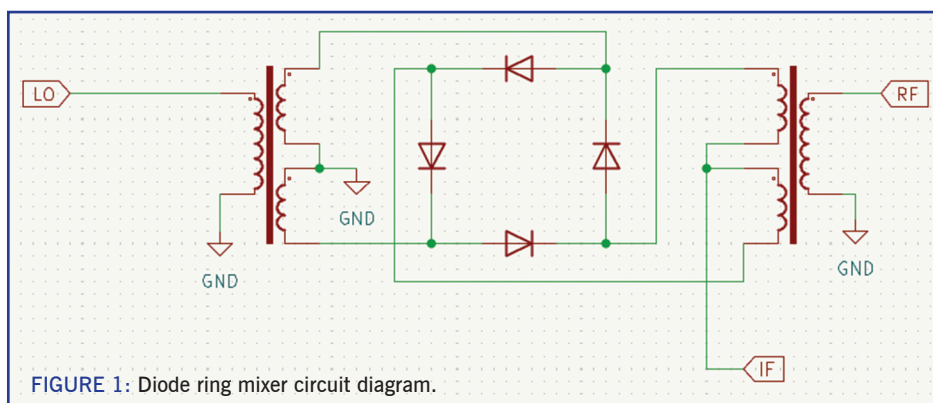

FIGURE 1: Diode ring mixer circuit diagram.
If you have looked at QRP rig designs or simple superheterodyne receivers, you will have undoubtedly come across a diode ring mixer. This is a component found in many published radio designs, and I was recently reminding how it functions. A circuit diagram of a diode ring mixer is presented in **Figure 1**. Note that the orientation of the trifilar transformer windings is critical and the blobs on the circuit diagram represent the same side or orientation of the windings. The job of the diode ring mixer is to take the RF and local oscillator (LO) signals, and mix them to make the intermediate frequency (IF). Typically, this will be the sum or the difference of the two inputs. Let's build one and see what's actually going on.